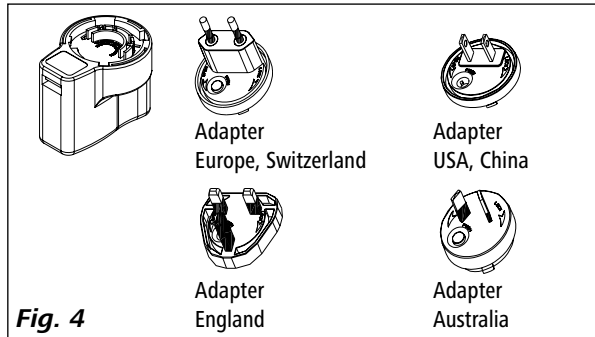

Fig. 4
- OS 1.0 power supply (for **WiCo**) see Fig. 4